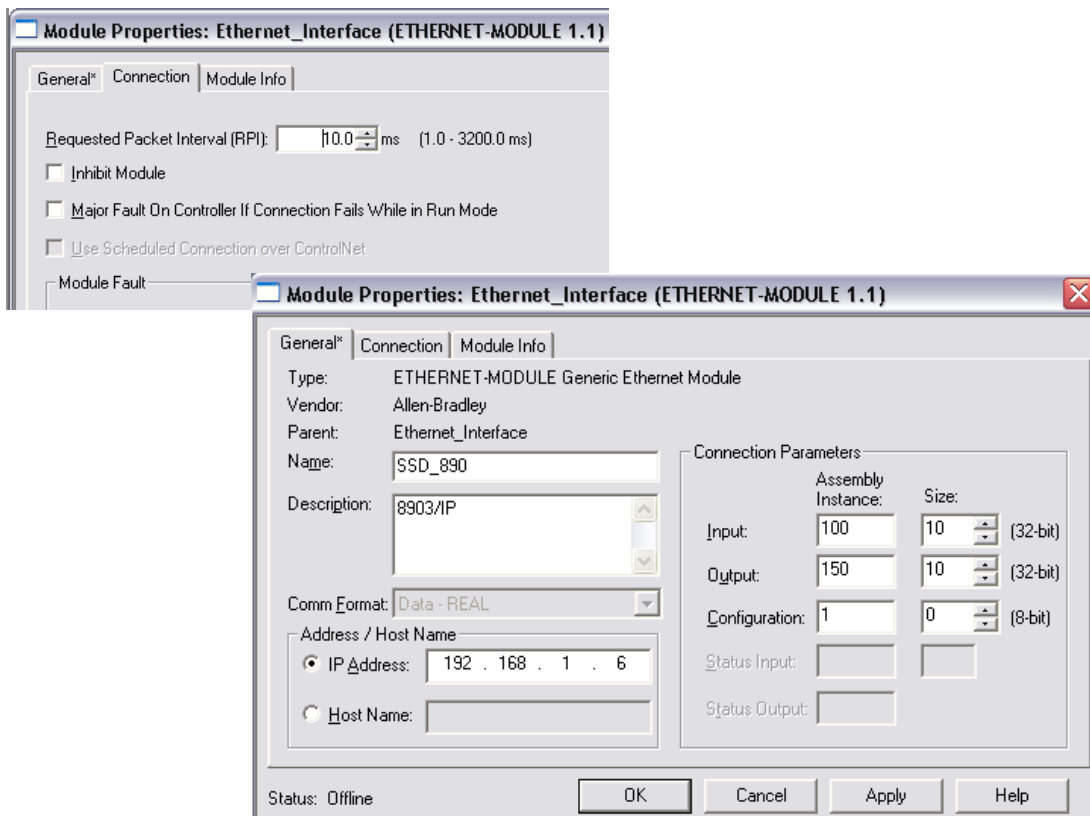

Figure 23 Generic Ethernet Module Setup
- Input the desired module name and IP address. The Comms format will be DATA Int if 16-bit signed integer, or Data-REAL if 32-bit floating point. The Input Assembly Instance is 100 and the Output Assembly Instance is 150. Refer to Figure 23.
- Click on Next to change the Requested Packet Interval (RPI). The default value of 10ms should be sufficient. If the RPI is set below 5ms unreliable communications may be experienced. Refer to Figure 23.